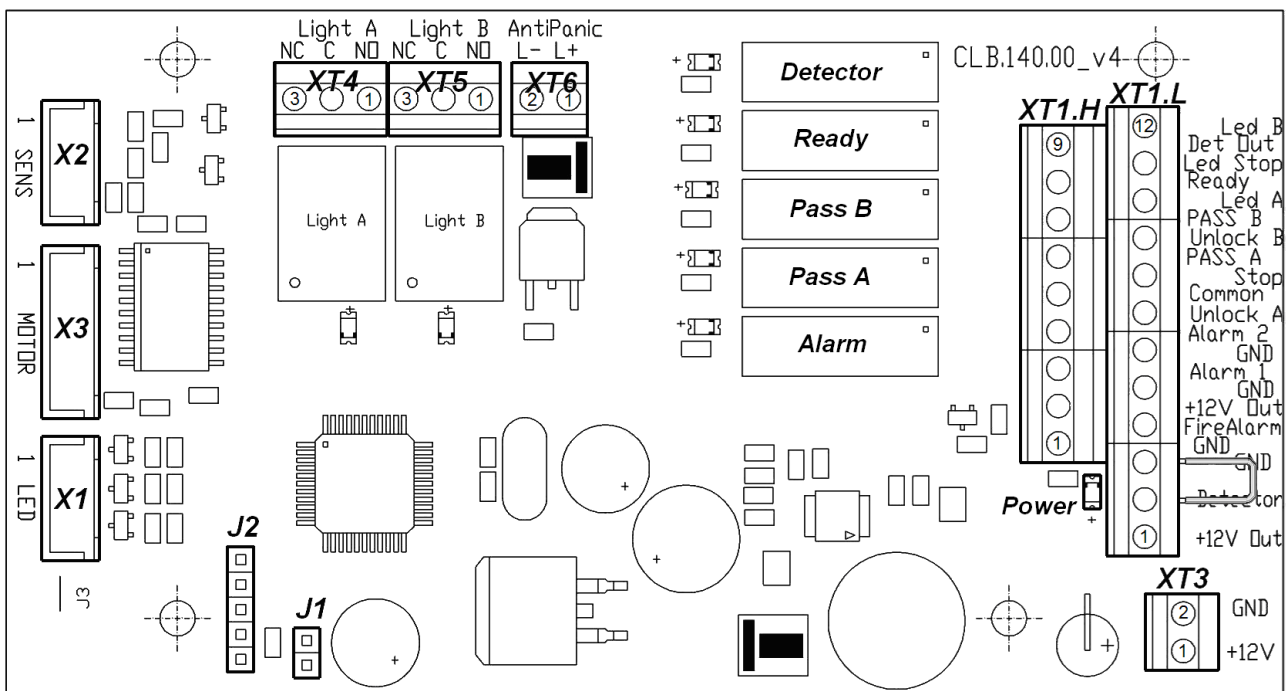

Fig. 5. The CLB
The RC-panel is connected to the CLB with a flexible multicore cable (14) via the **XT1.L** connector block (Ref. Fig. 5 and Fig. 12).
If the turnstile orientation relatively to the operator's terminal is not standard (e.g. the terminal is placed at the backside of the turnstile housing), the RC-panel orientation towards the turnstile can be changed by exchanging places of the RC wires to the contacts *Unlock A* and *Unlock B* as well as contacts *Led A* and *Led B* accordingly (see Fig. 5 and Fig. 12).
Inside the turnstile housing there is a bracket with a control board CLB.140 mounted on it with terminal clamps for connection of external devices. RC-panel, ACS outputs, WRC device (when used), intrusion detector (optional) and emergency unblocking device are connected to the CLB. Connection lines of a power supply unit and signal lines of card readers are connected to the terminal clamps for connection of external devices). Layout of electrical connections the turnstile housing is shown in Fig. 12. The CLB is shown in Fig. 5.
The CLB (Ref. Fig. 5) houses:
The relays “PASS A” (contacts *PASS A* and *Common*), *PASS B* (contacts *PASS B* and *Common*), “Ready” (contacts *Ready* and *Common*), “Detector” (contacts *Det Out* and *Common*) and “Alarm” (contacts *Alarm 1* and *Alarm 2*) have normally open contacts. The *Common* contact, common contact for the relays, at that, is not connected to the negative terminal of the turnstile power supply. In the initial (inactive) state, when the power is on, the relay contacts “PASS A”, “PASS B”, “Ready” and “Detector” are closed (voltage is supplied to the relay coil) and the “Alarm” relay contacts are open (voltage is not supplied to the relay coil). Opening/closing of “PASS A”, “PASS B”, “Ready” “Detector” and “Alarm” relays is indicated by lighting/going out of red indicators located near the corresponding relays (Fig. 5).
Pin assignment of the CLB connector blocks are given in Fig. 5 and on a label located on the inner surface of the turnstile top cover.
The control mode is set by the jumper on a **J1** connector (the **J1** connector location is shown in Fig. 5: the jumper is installed – the pulse control mode, the jumper is not installed – the potential control mode). The jumper is installed at delivery.
The emergency unblocking device is connected to the **XT1.L** connector block of the CLB in accordance with the connection layout (Fig. 12 and Fig. 5). If the *Fire Alarm* input is not used, it is necessary to install a jumper between the contacts *Fire Alarm* and *GND*. This jumper is installed at delivery.